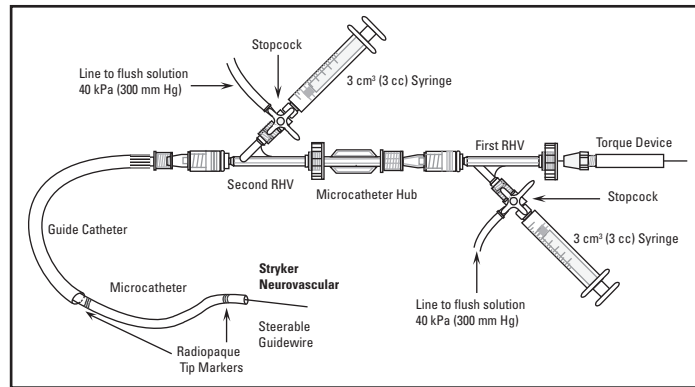

Figure 1. Example of Continuous Flush Setup
The recommended continuous flush set up is illustrated in Figure 1. The RHVs provide a fluid tight seal and are attached to the guide catheter and microcatheter. Attach the stopcocks to the RHV sidearms, which become infusion ports for appropriate flush or contrast media injection.
- Slide torque device over proximal end of guidewire per Figure 1, and secure.